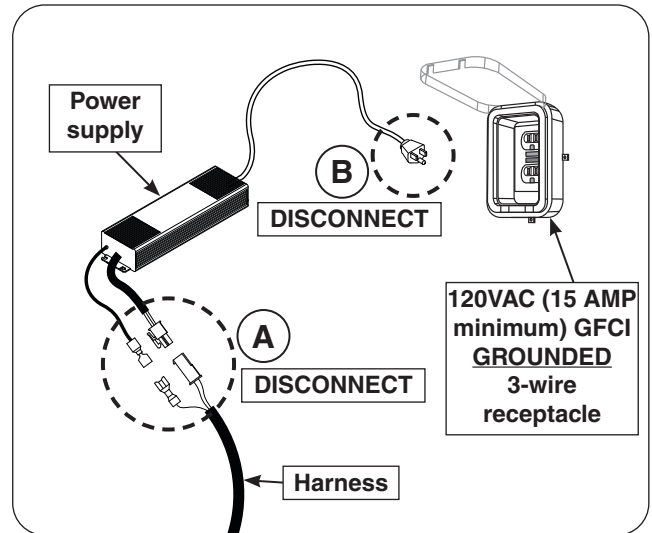

Fig. 33-1 Perform system reset
2. Disconnect the harness from the power supply (see Fig. 33-1, A).
3. Disconnect the power supply from the power source. (see Fig. 33-1, B).